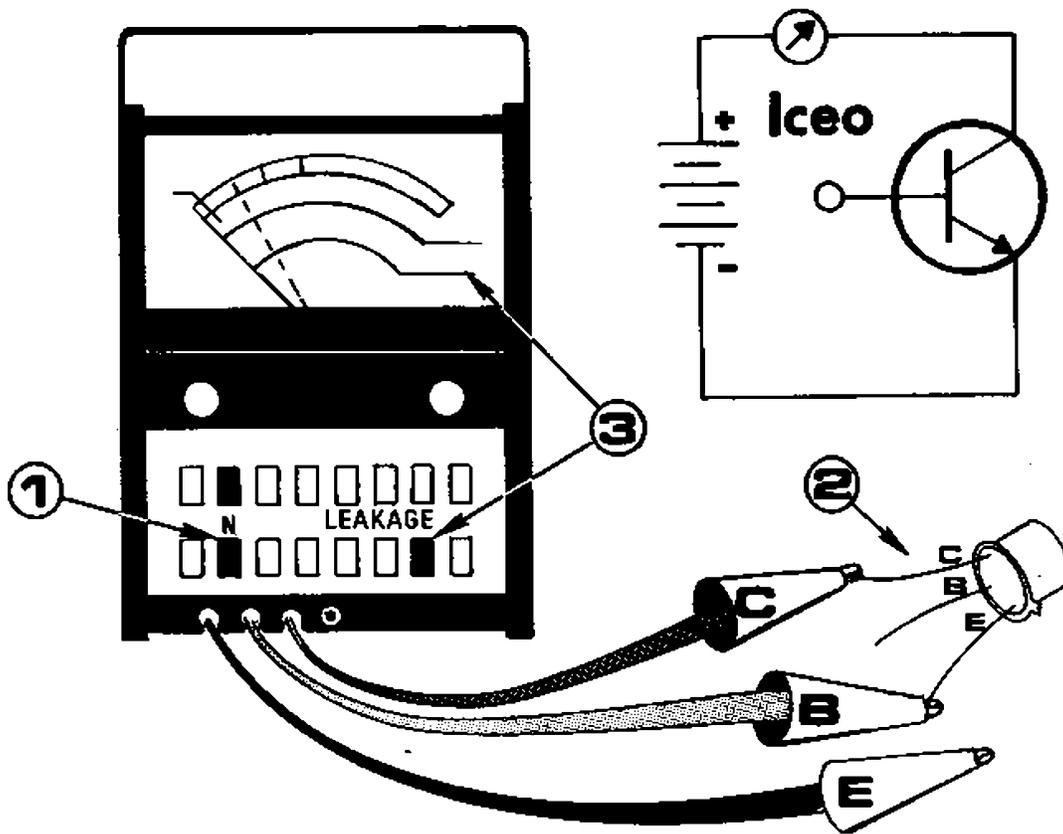

Fig. 9. ICEO Leakage Test
2. Connect the C lead of the TF166 to the collector of the transistor, the B lead to the emitter of the transistor, and leave the E lead and the base of the transistor disconnected, as shown in Fig. 9.